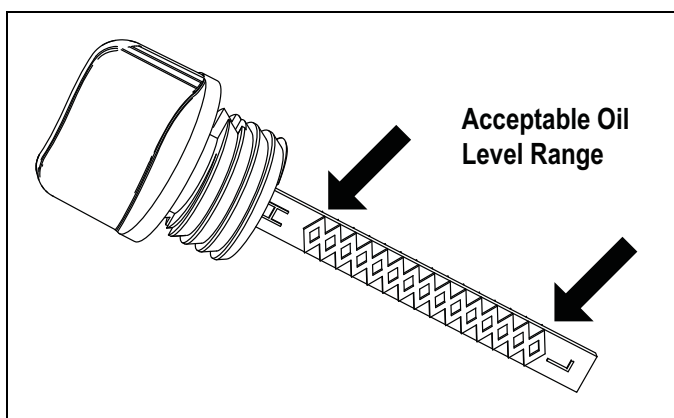

Figure 4-4. Dipstick
4. Check periodically until the oil level is between "L" and "H" on the dipstick (Figure 4-4). Do not overfill.